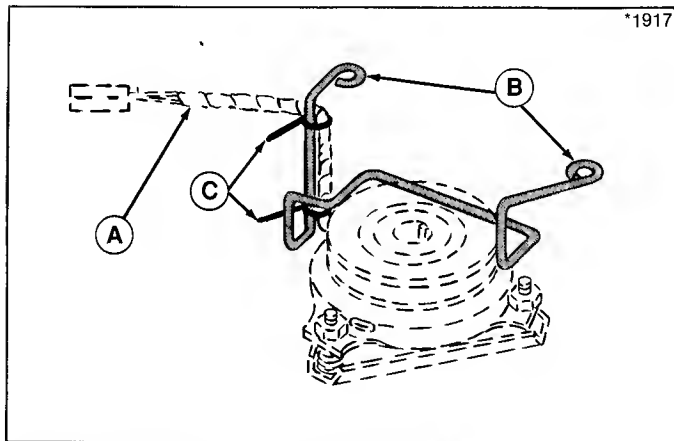

Figure 26. Electric Clutch Wire Harness
8. Disconnect wire harness to electric clutch harness plug (A, figure 26). Remove ties (C) securing wire harness (A) to belt stop (B).
3. Connect wire harness for electric clutch. Refer to figure 26. Secure wire to belt stop with reusable ties. If ties are damaged, tape wire securely at top and bottom of belt stop.